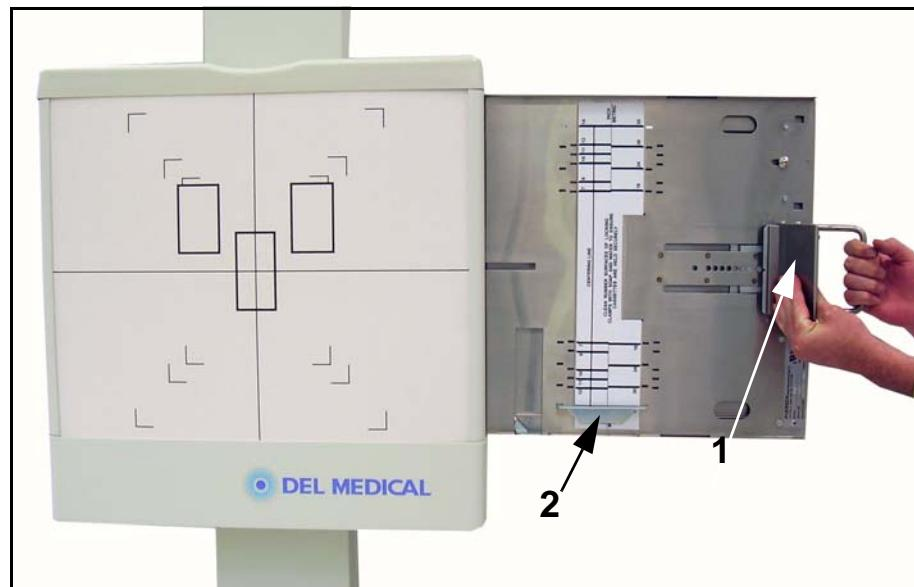

Figure 3-3. Clamp & Bracket
- 2 Lift clamp (1 in Figure 3-3) up.
- 3 If necessary, move bracket (2) to the position that matches the size of your cassette.